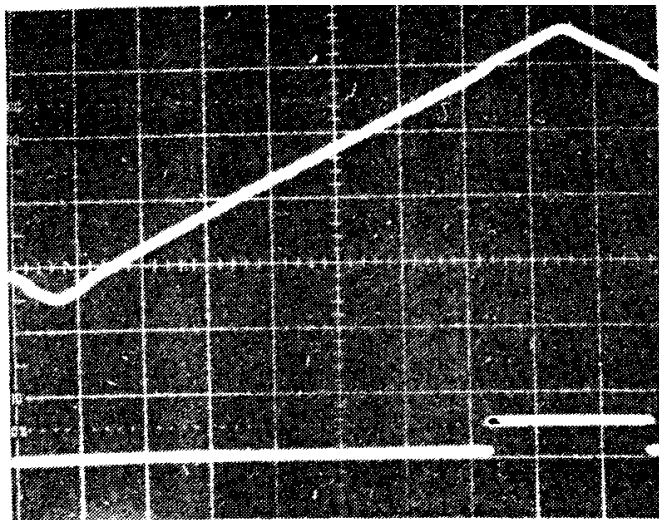

Figure 5-11
- h. Raise and lower the modulation until Step 38 can be seen to turn on. A small transition in the demodulated waveform may be noticed where a big step turns on. See Figure 5-11.
transition. You may also see that there is now a transition at Step 37 and Step 38 also. See Figures 5-11 and 5-12.